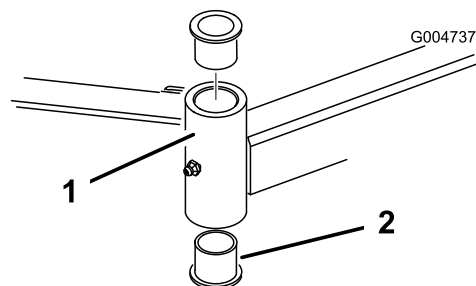

Figure 89
4. Insert a pin punch into the top or bottom of the mounting tube and drive the bushing out of the tube (Figure 89).